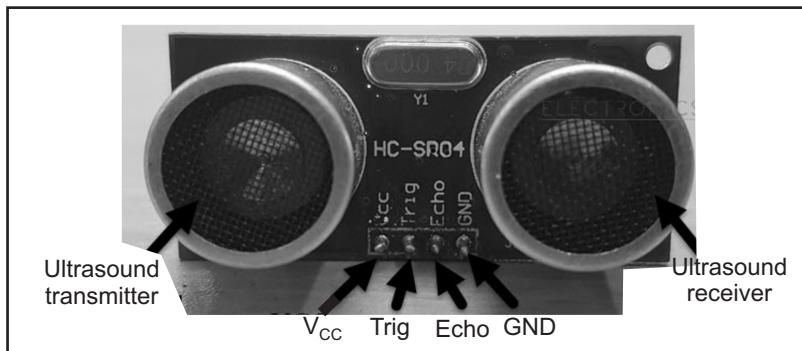

Fig. 4.10 : Ultrasonic sensor HC – SR04
- HC-SR04 ultrasonic sensor as shown in below Fig. 4.10 is widely used for distance measurement up to 400 cm. It consists of transmitter, receiver and control circuit. As shown in Fig. 4.10, it has V_{cc}, Trig, Echo and GND.